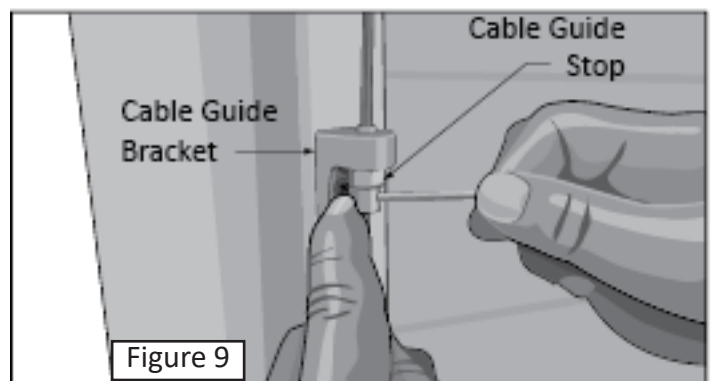

Figure 10  Insert Cable Guide Stop pointing upward, from underneath the Cable Guide Bracket.
18. Place the lower end of one of the Vinyl Coated Cables through the hole in the Cable Guide Bracket. See **Figure 9**. From the bottom, slide one of the Cable Guide Stops (see **Figure 10**) onto the Vinyl Cable and secure in place with the supplied $\frac{5}{64}$ " Allen wrench. Repeat for the other side of the EasyShade.
Move the EasyShade to its current Down limit position and let it stop. Press the (UP)  and (DOWN)  buttons simultaneously (see **Figure 10**) until the EasyShade jogs, then release. Adjust to a new Down limit position. Press the (MY)  button until the EasyShade jogs, then release. Check the new Down limit.